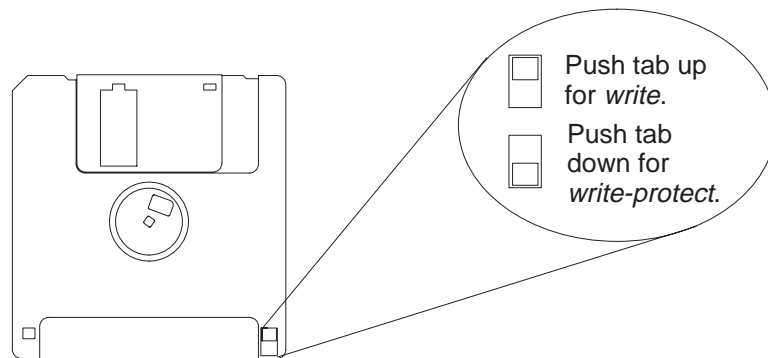

Figure 4-1. Setting the Write-Protect Tab on a Floppy Diskette
You can only store or change information on a diskette when the write-protect tab is in the *write* position. So, before trying to write to the diskette, make sure that the write-protect tab is in the *write* position, as shown in Figure 4-1.
2. Make sure that the write-protect tab on the floppy diskette is in the *write* position, as shown in Figure 4-1.